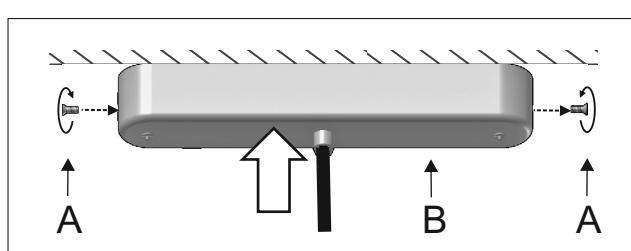

Figure 4
- 4 - Place the canopy [B] and fasten the side screws [A]. Figure 4.